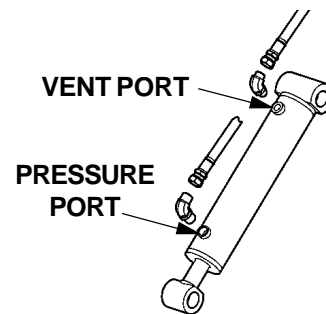

FIG. 45-1
4. Check the Hydraulic Cylinder. With the Platform on the ground, remove the Breather Plug or Vent Line from the Vent Port of the Cylinder (**FIG. 45-1**). Raise the Platform even with the bed. Allow pump motor to run two seconds more while you watch for hydraulic fluid at the Vent Port. A few drops of hydraulic fluid escaping the Vent Port is normal; however, if it streams from the Vent Port, Piston Seals are worn. Replace Seals.